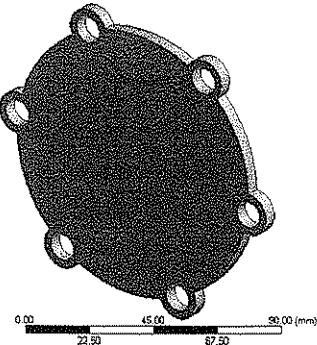

Figure 4-57 The extruded feature
6. Choose the **Generate** tool from the **Features** toolbar; the sketch is extruded, as shown in Figure 4-57.